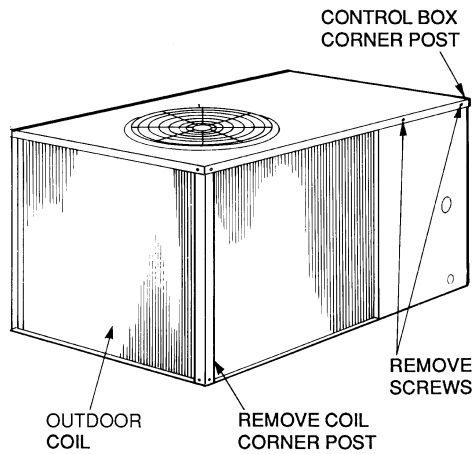
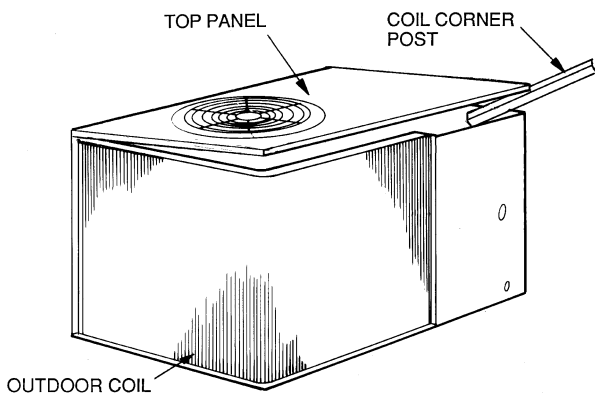

Fig. 12 — Cleaning Outdoor Coil
Fig. 13 — Propping Up Top Panel
3. Remove outdoor coil corner post. See Fig. 12. To hold top panel open, place coil corner post between top panel and side panel. See Fig. 13.